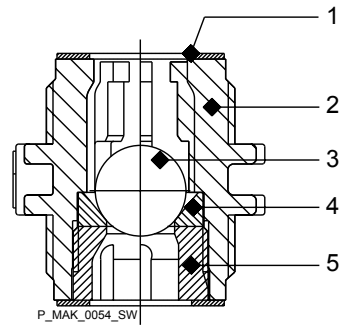

Fig. 21: Cross-section through the single ball valve
1. Screw the valve cap (5) on to the suction side - see Fig. 21.
2. Carefully remove the parts from the valve body (2).
6. ➤ If available: Place the compression spring inside the valve body (2).
7. ➤ Insert the valve ball (3) and the valve seat (4).
8. ➤ Screw on the valve cap (5).